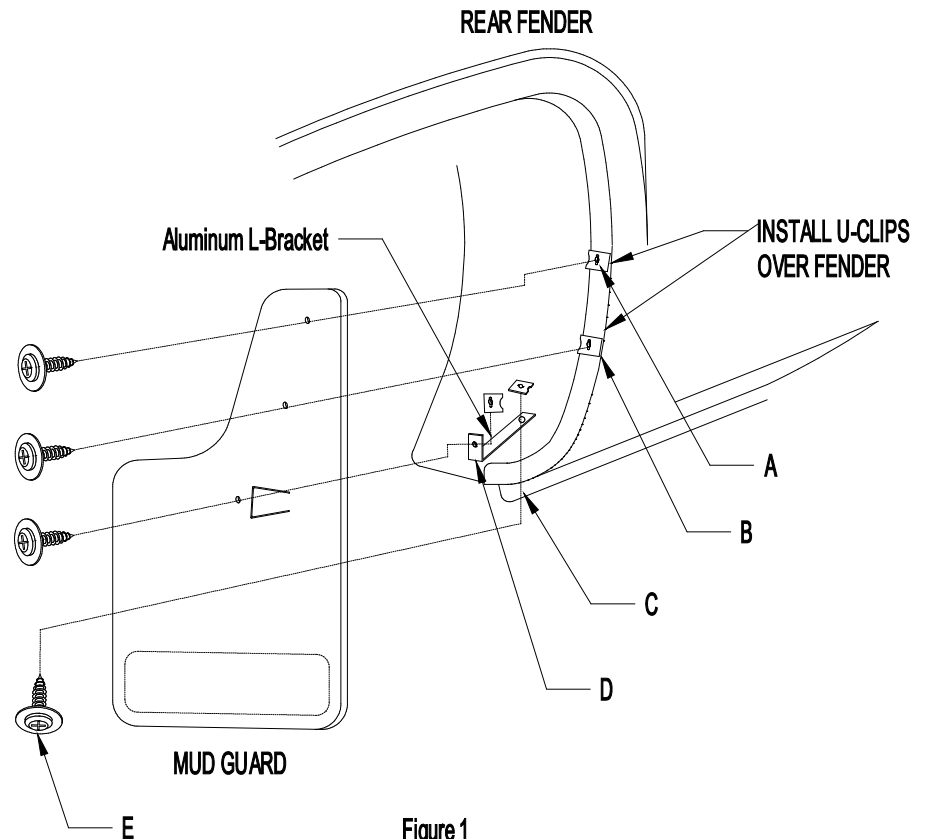

Figure 1
2. Install u-clips at locations A and B (Figure 1 and 3).